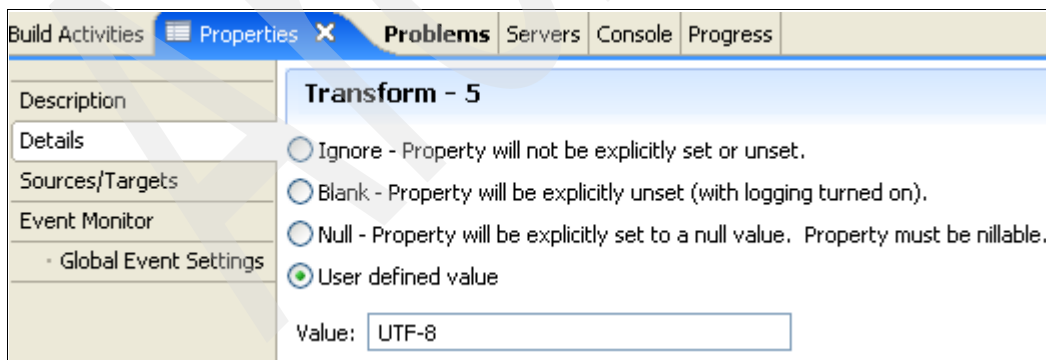

Figure 3-239 Business object assign user-defined value
- d. Set SimpleAlertEmail Encoding's field to UTF-8 by right-clicking **Encoding** and selecting **Create Transform** → **Assign**. Then, go to Properties and select **User defined value**, and enter UTF-8. See Figure 3-239.